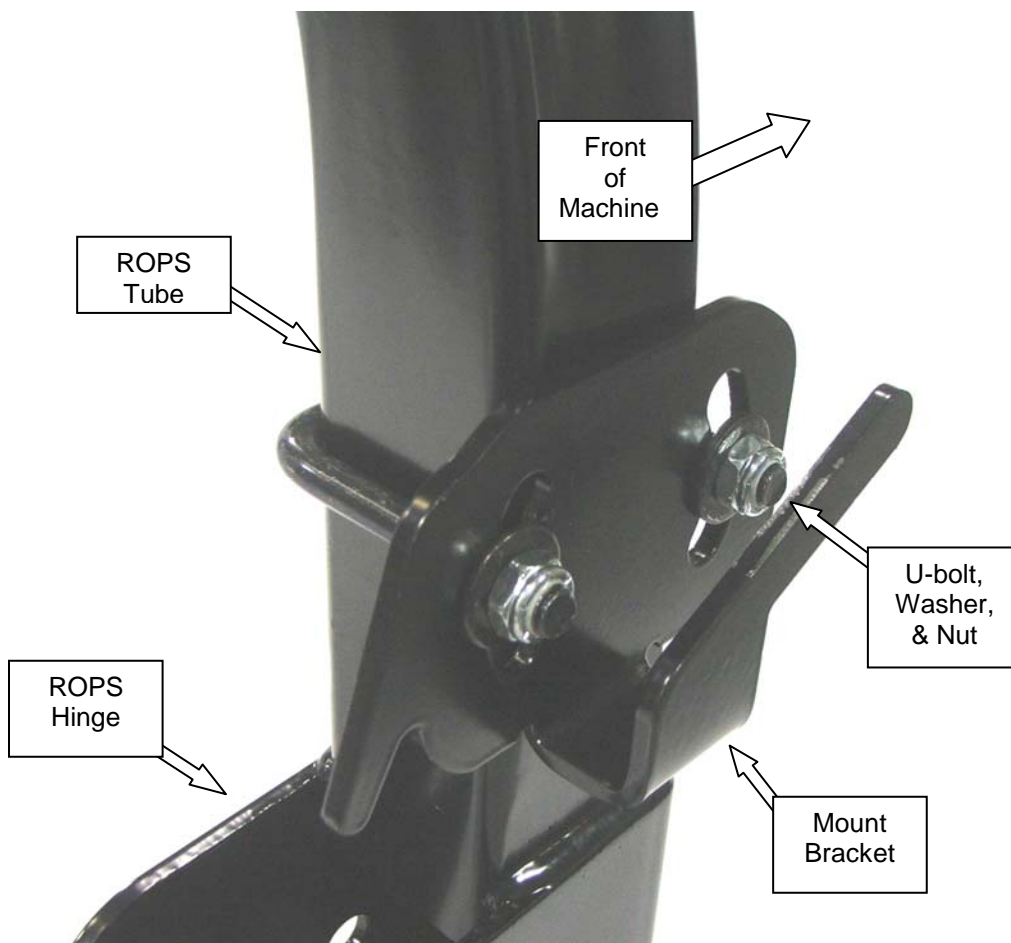

FIGURE 3
7. Assemble on each side (1) Mount Bracket with (1) U-bolt, (2) flat washers and (2) flange nuts. Orientate Mount Bracket to extend towards front of machine (**Figure 3**).